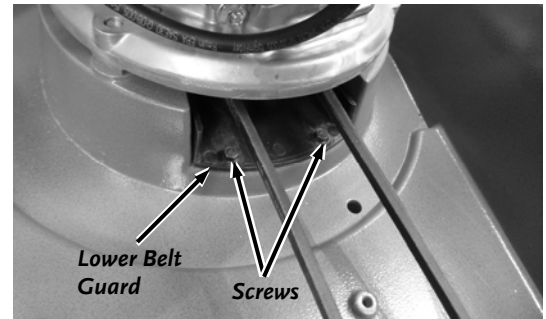

Figure 21
- Remove the two Screws from the top side of the lower Belt Guard with an 8mm Wrench (**Figure 21**).